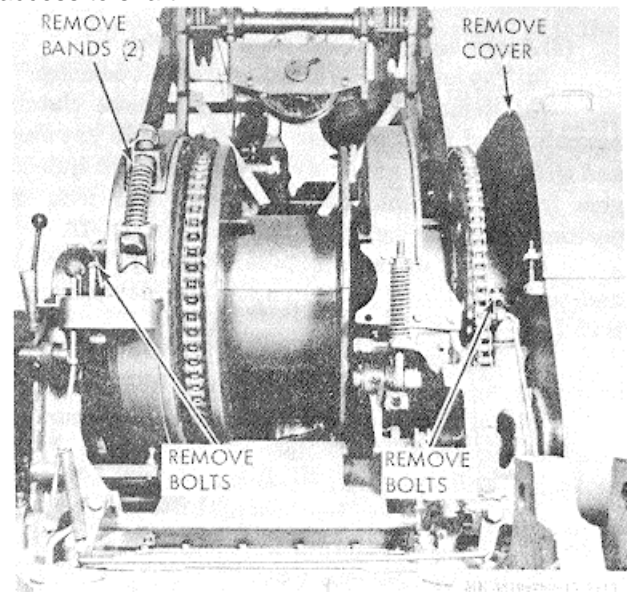

Figure 4-15. Front drum shaft removal.
(1) Hoist and swing gears are heat treated steel castings with machine cut teeth. Hoist gear is keyed to shaft. Swing gear is keyed to swing clutch housing.
(2) Swing clutch housing is mounted on ball bearings.
(3) Boom hoist drum is located inboard of left machinery side frame. It is mounted on ball bearings. Clutch and brake housing are cast integral with the drum.
(4) Boom hoist brake is external contracting band type, spring set and released with boom hoist control lever. It has 24" diameter and is 2 1/2" wide.
(5) Boom hoist clutch is internal expanding band type, set by a booster clutch band. It is mechanically controlled, 20" in diameter and 2" wide.
(6) Boom hoist clutch driver is keyed to the shaft.
(7) Front rope drum clutch housing is cast integral with brake and clutch housing. It is mounted on ball bearings.
(8) Drum brake is external contracting band type, 27 1/2" in diameter, 3" wide and mechanically operated.
(9) Drum clutch is internal expanding band type, 24" in diameter, 3" wide and mechanically controlled.
(10) Forward and below the front drum shaft is a countershaft which contains the mechanism for power controlled lowering of the boom hoist.
b. *Removal.* Refer to figure 4-15.
(1) Lower boom to rest securely, slacken suspension ropes, and remove rope from boom hoist drum.
(2) Remove left front A-frame leg.